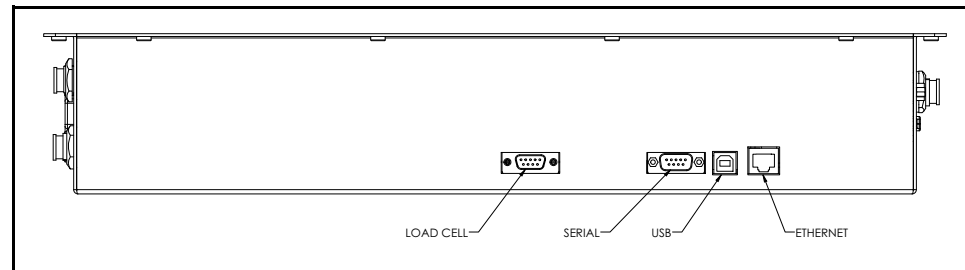

Figure 4
2. Locate your preferred port. See Figure 4.
2. Connect the Ethernet cable to the CubiScan 225’s Ethernet port, as shown in Figure 4.
1. Connect the USB cable to the CubiScan 225's USB port located on the controller box, as shown in Figure 4.
2. Connect the serial cable to the CubiScan 225’s serial port, as shown in Figure 4.